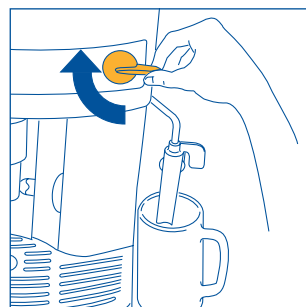

Fig.6
4. After few seconds, a little water will come out of the milk frother. When there is around 30cc in the cup, turn the steam knob half a turn clockwise (Fig.6) until it stops, so as to stop the water coming out.
- To stop the flow of hot water, turn the knob all the way clockwise (Fig. 6) and return the milk frother to the original position towards the centre of the machine.
- Move the cappuccino maker outwards (fig. 6)
- Then interrupt steam delivery by rotating the knob clockwise as far as it will go (fig. 6).
- Once the desired temperature has been reached, stop the steam by turning the steam knob clockwise until it stops (Fig. 6).